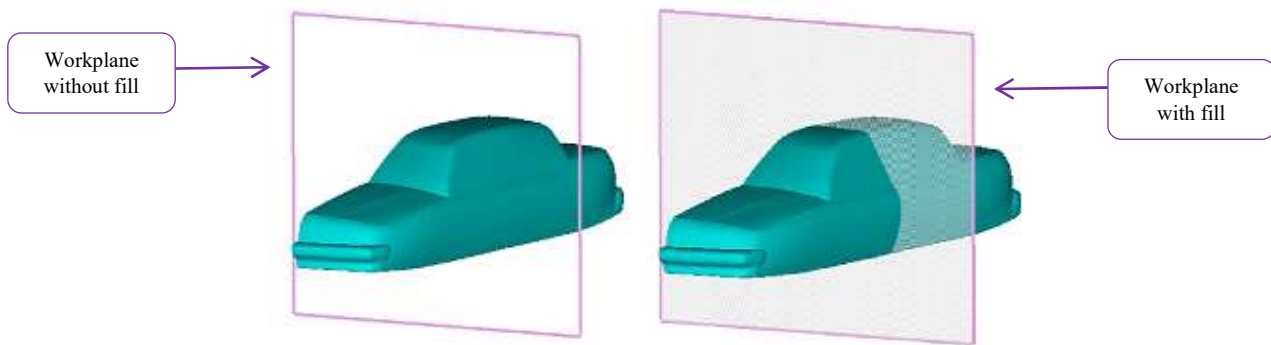

Figure 2.97: With and without fill for workplane respectively
**Fill** operation of the workplane serves as a visual aid. Clicking on the **Fill** option will leave the workplane rectangle shaded in translucent white. Usually, the **Fill** operation is most useful when a side of the surface is clipped, and you want to better orient your eyes to the view screen. Essentially, the **Fill** operation locates the workplane for you and allows you to view better 2-dimensional slices of a surface, as seen in Figure 2.97.